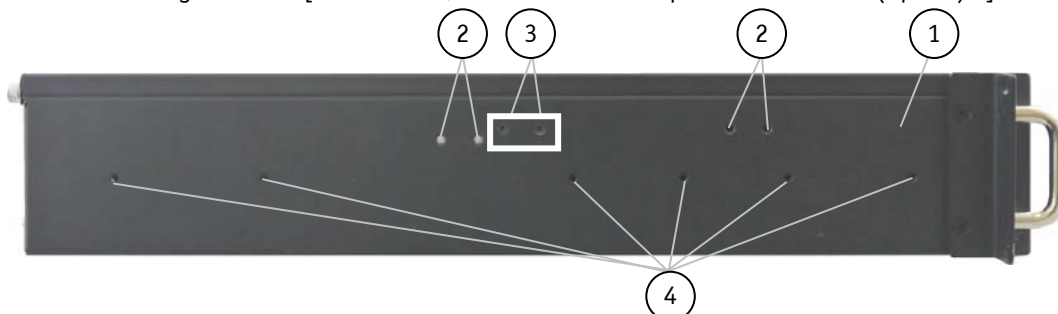

Fig. 20: KISS 2U V2 - side view
| 2 L1 and L2 : drives bays (stacked one above the other into a drive cage) | 9 Card hold down bracket (adjustable for long or short expansion cards; see Fig. 20, pos. 3) |
| 3 Retaining bracket for the butterfly-backplane (not provided at system configuration with low profile cards) | 9 Card hold down bracket (adjustable for long or short expansion cards; see Fig. 20, pos. 3) |
| 2 L1 and L2 : drives bays (stacked one above the other into a drive cage) | 7 Card hold down bracket (adjustable for long or short expansion cards; see Fig. 20, pos. 3) |